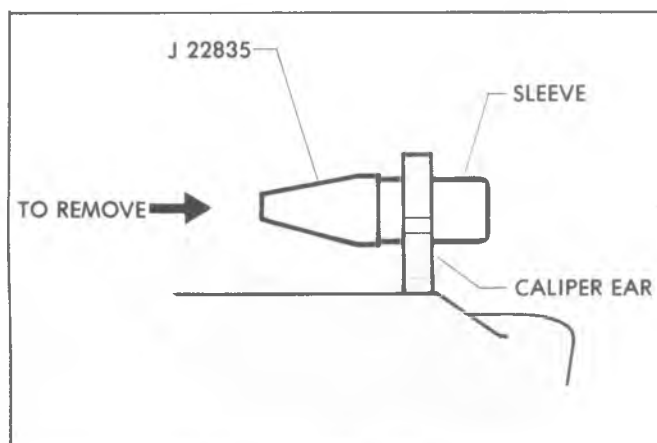

Fig. 5-22--Removing Sleeves
4. Using Tool J-22835, remove the sleeves from the inboard ears of the caliper (fig. 5-22). Next, remove the rubber bushings from the grooves in each of the four caliper ears.